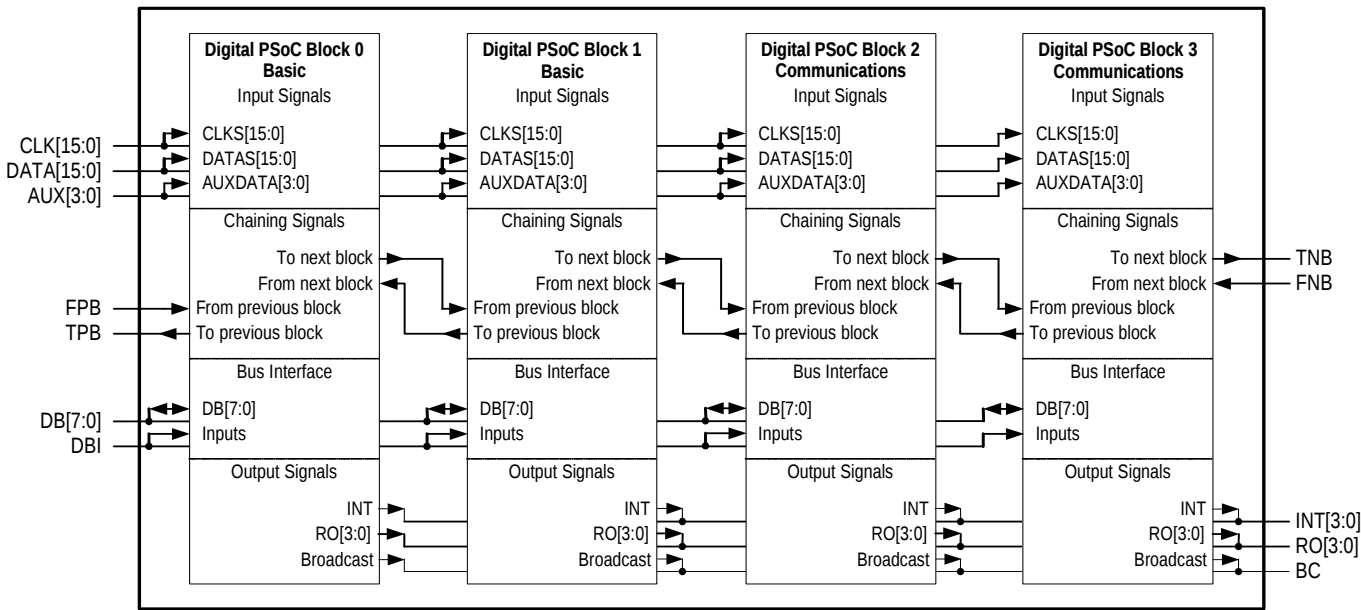
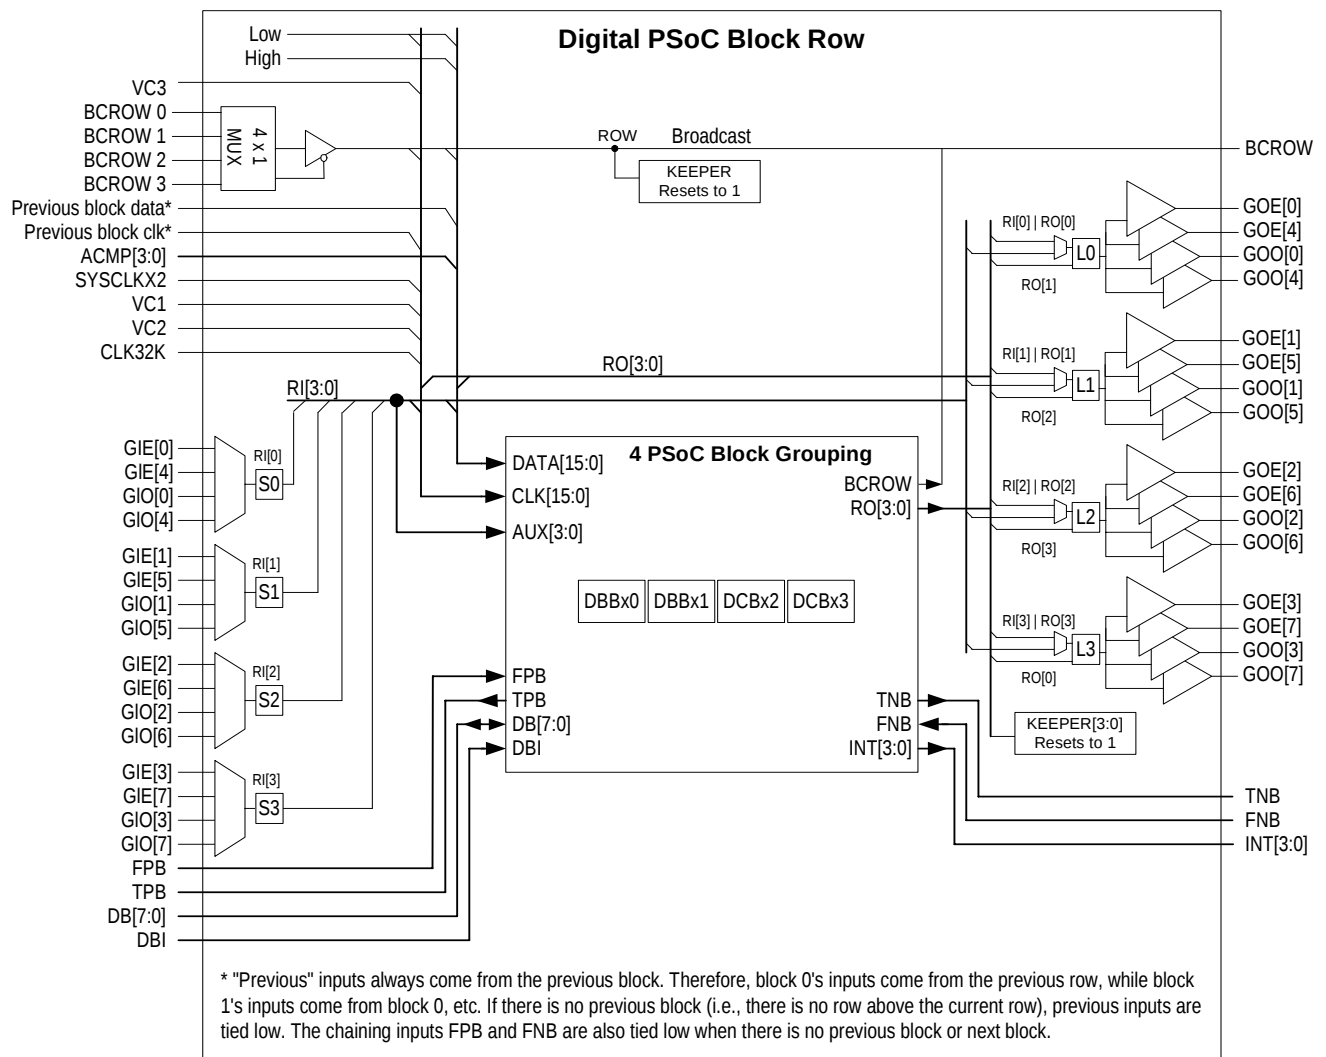

Figure 16-1. Detailed View of Four PSoC Block Groupings
Figure 16-2. Digital PSoC Block Row Structure
In Figure 16-1, within a Digital PSoC Block row, there are four digital PSoC Blocks. The first two blocks are of the type basic (DBB). The second two are of the type communication (DCB). This figure shows the connections between digital blocks within a row. Only the signals that pass through the bold line in Figure 16-1 are shown at the next level of hierarchy (Figure 16-2 on page 203).
In Figure 16-2, the detailed view of the four PSoC block grouping, as seen in Figure 16-1, has been replaced by the box in the center of the figure labeled “4 PSoC Block Group-
ing.” The rest of the configurable nature of the Row Inputs (RI), Row Outputs (RO), and Broadcast clock net (BC) is shown. The next level of hierarchy is shown in Figure 16-1.
The only configurable inputs to a Digital PSoC Block Row are the Global Input Even and Global Input Odd 8-bit buses. The only configurable outputs from the Digital PSoC Block Row are the Global Output Even and Global Output Odd 8-bit buses. Figure 16-2 on page 203 illustrates the relationships between global signals and row signals.
Notice on the left side of Figure 16-2 that global inputs (GIE[n] and GIO[n]) are inputs to 4-to-1 multiplexers. The output of these multiplexers are Row Inputs (RI[x]). Because there are four 4-to-1 multiplexers, each with a unique set of inputs, a row has access to every global input line in a PSoC device.
The outputs from a Digital PSoC Row are a bit more complicated than the inputs. Figure 16-2 on page 203 illustrates the output circuitry in a Digital PSoC Row. Notice in the figure a block labeled “Lx.” This block represents a 2-input lookup table (LUT). The LUT allows the user to specify any one of 16 logic functions that should be applied to the two inputs. The output of the logic function will determine the value that may be driven on to the Global Output Even and Global Output Odd busses. Table 16-5 lists the relationship between a lookup table's four configuration bits and the resulting logic function. Some users may find it easier to determine the proper configuration bits setting by remembering that the configuration's bits represent the output column of a two input logic truth table. Table 16-5 lists seven examples of the relationship between the LUT's output column for a truth table and the LUTx[3:0] configuration bits.